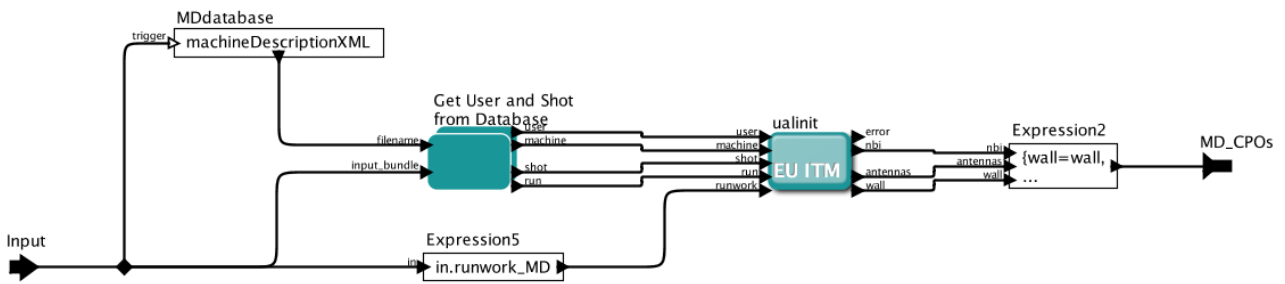

Figure 6. The UAL_read_machine_description_CP0s composite actor, part of UalGetCpoBundle .
- This third actor (see figure 6 and 7) first identifies the relevant triplet of `UserId/Shot/Run` to be used when reading data from the machine description database. This procedure uses an xml-document from the `md_and_dm` -repository that related e.g. JET shot 77922 with a certain set `UserId/Shot/Run`. Once this triplet is known the `UALInit` is called and its output is finally bundled.